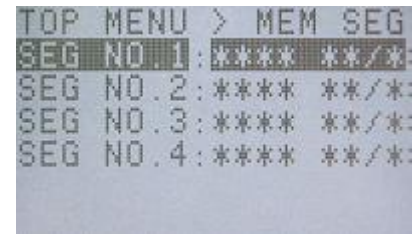

Figure 3-75 MEM SEG
- 2) Use arrows   to select "MEM SEG" from the TOP MENU and press SET  to display the sub-menu for MEM SEG. (Figure 3-75). The segment number, recording scene number and trigger time will be displayed.
(Figure 3-75 shows 4 memory segments that haven't been recorded yet)